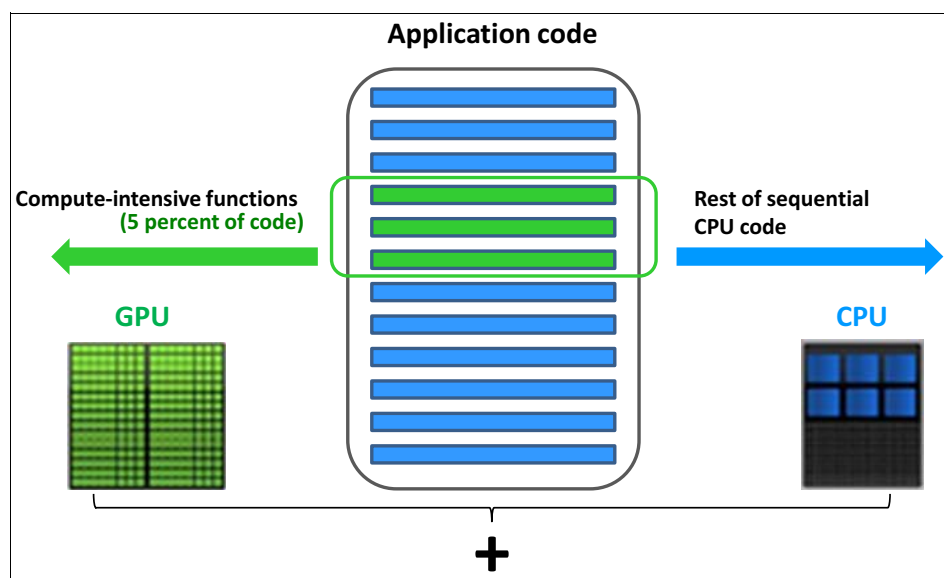

Figure 4-30 GPU-accelerated computing
- ▶ Combining GPUs with CPUs enables so-called GPU-accelerated computing (see Figure 4-30). Compute-intensive applications are offloaded to GPUs while the CPUs run the remainder of the application code. This approach can speed up performance dramatically in scientific, engineering, and enterprise applications.